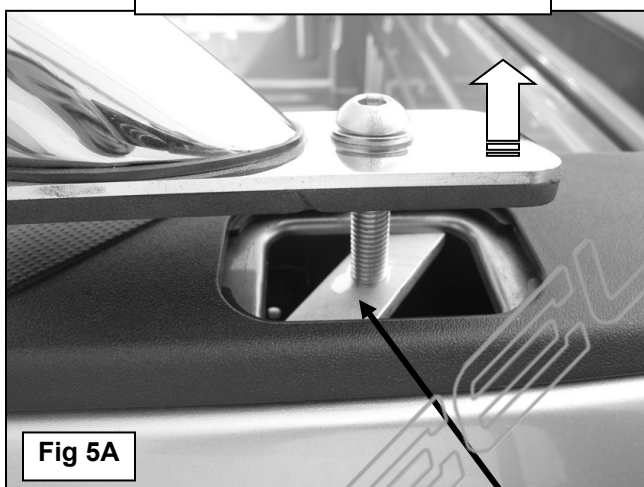

Fig 5A
5. To tighten the Threaded Plates, start at the front and pull up on the Bed Rail to hold the plate in place and centered across the pocket. Keep pulling up on the Bed Rail to prevent the Plate from moving/rotating while tightening the Mounting Bolt. Tighten the Bolt until it is snug but do not fully tighten at this time, **(Figure 5A & 5B)**. Repeat this Step to tighten the rear Bolt on the Bedrail. Once properly centered and aligned, fully tighten both Mounting Bolts.